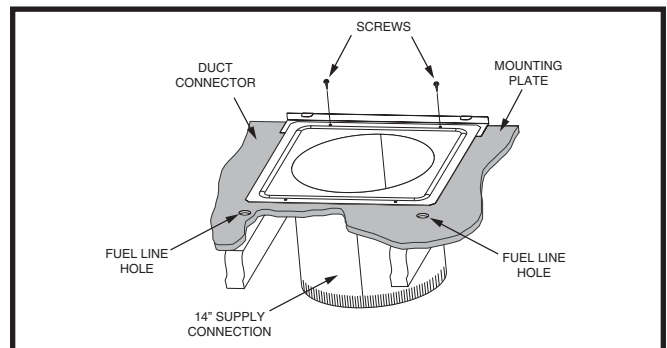

Figure 13. Round Duct Connector Installed
- Install the mounting plate under the back side of the duct connector. See Figure 13 \(page 8\). **NOTE:** Align the screw holes in both components.